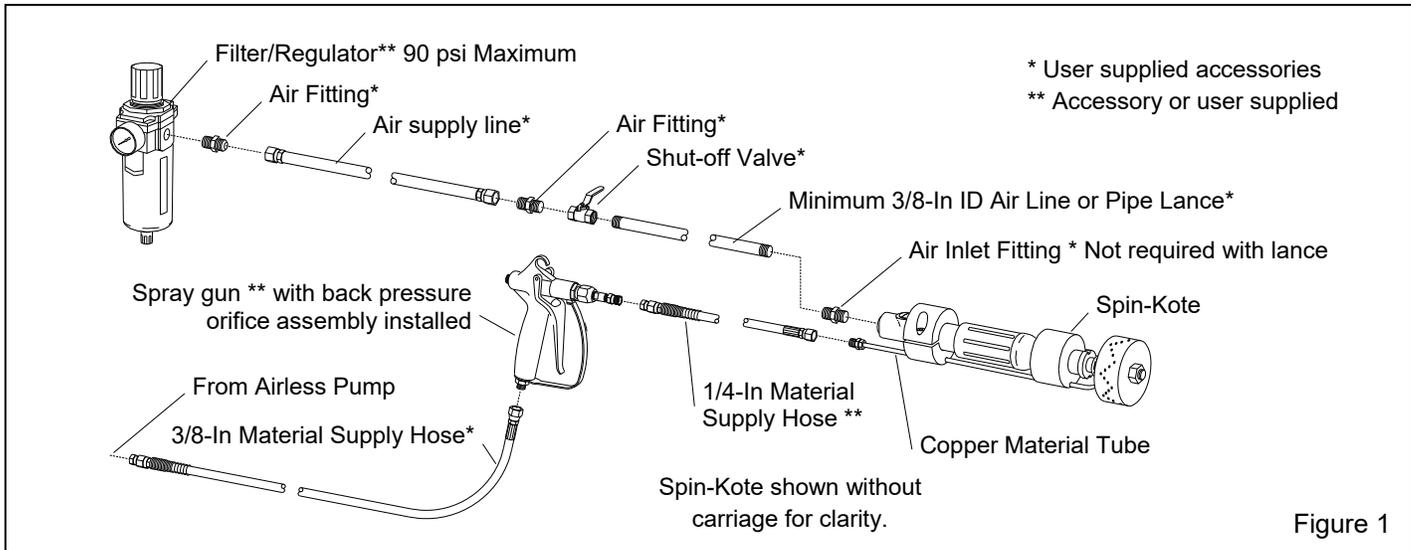

Figure 1
Refer to Figure 1 for typical set-up
2.3 Connect High-Pressure Paint Hoses Refer to Figure 1